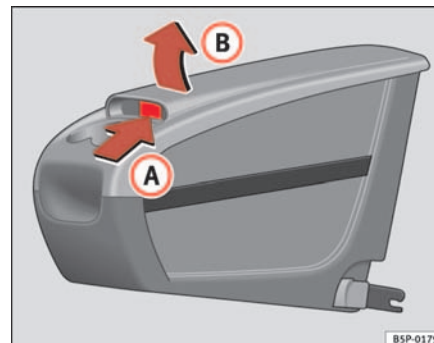

Fig. 111 Mobile stowage compartment Opening
- Lift the cover **(B)**, in area **(A)** ⇒ page 140, fig. 111.